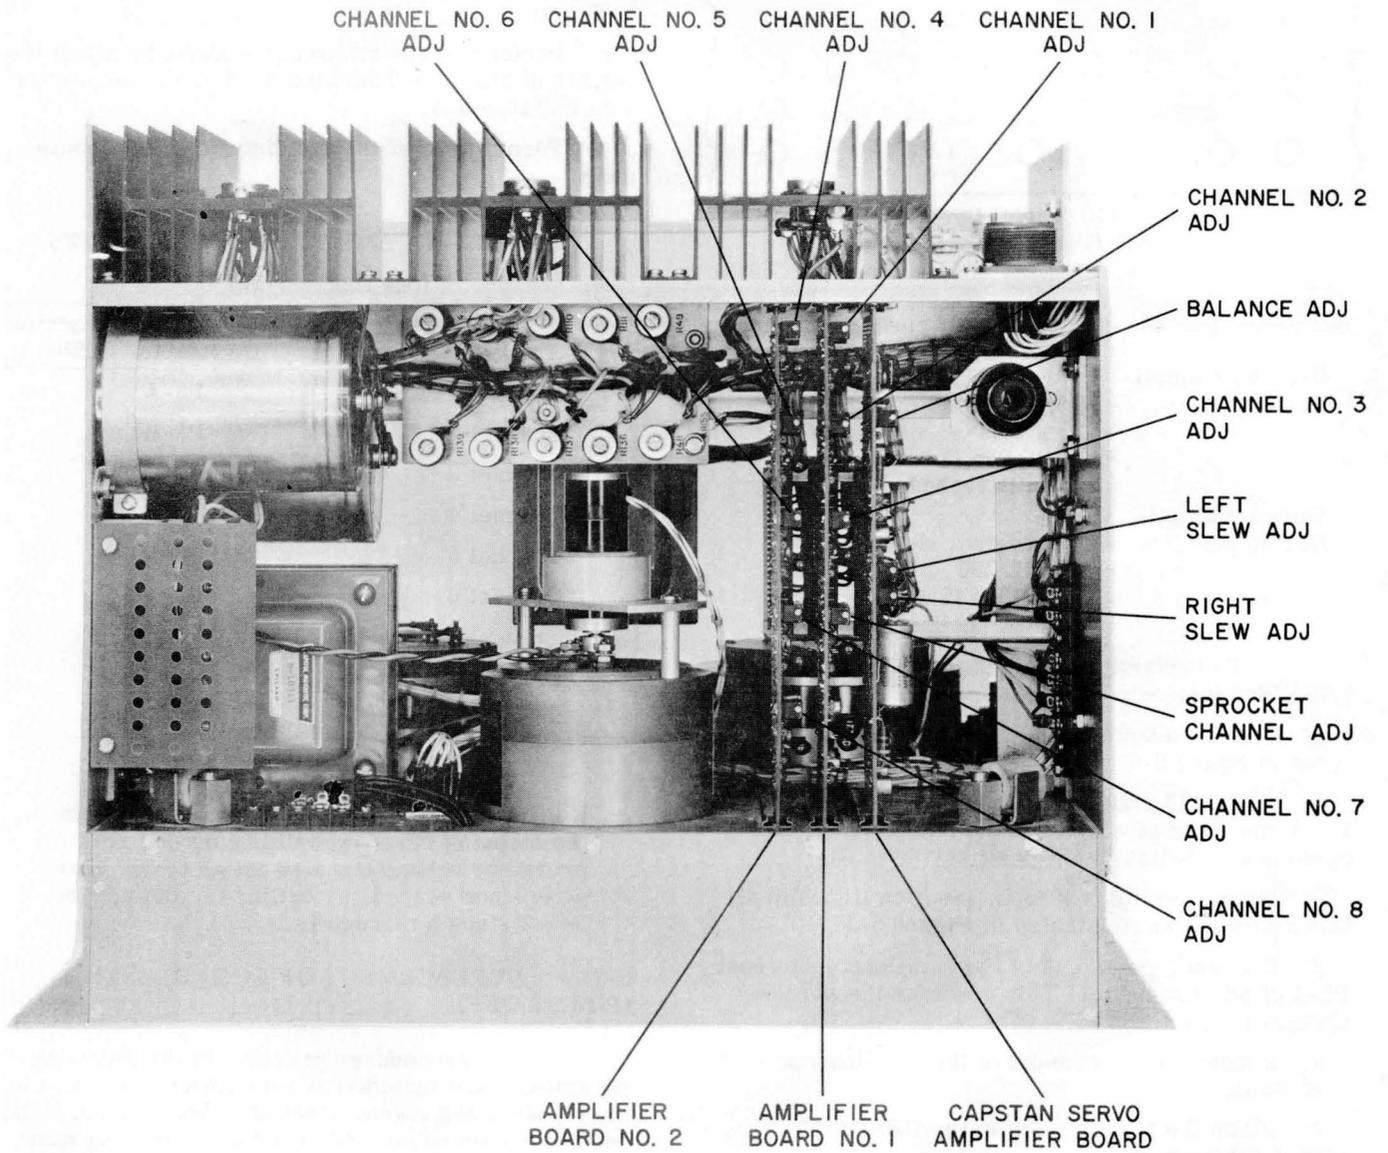

Figure 5-10. Capstan Servo and Amplifier Adjustments
5-6-1. **CAPSTAN SERVO BALANCE** (See figure 5-10).
**ADJUSTMENT.** (Figure 5-10.) Since there are a wide variety of tapes with large variations in light transmission, it may be necessary to readjust the channel amplifiers when tapes are changed. The equipment comprises nine amplifiers, eight for the code holes and one for the sprocket channel. The amplifiers for channels 1, 2, 3 and sprocket are located on amplifier board No. 1 while amplifier board No. 2 contains the amplifiers for channels 4 through 8.
(See figure 5-10)